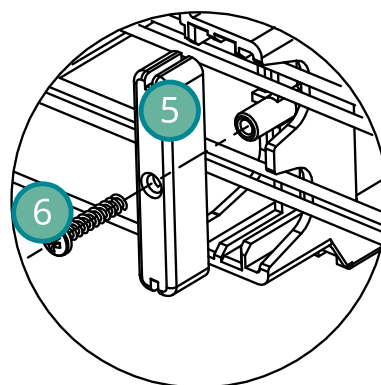

Figure 3-2: Cable clamp assembly
4. Assemble and fasten the cable clamp to hold the cables firmly in place as shown in Figure 3-2.
5. Tighten the cable clamp screw shown in Figure 3-2 to a torque of 0.8 – 1.2 Nm.